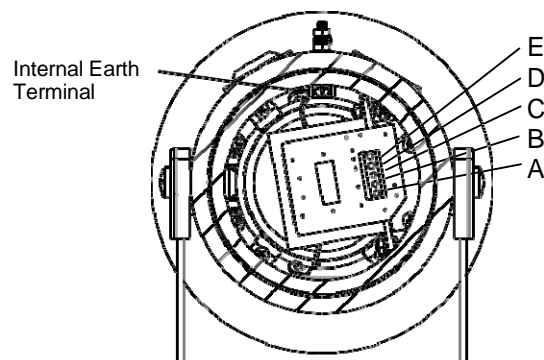
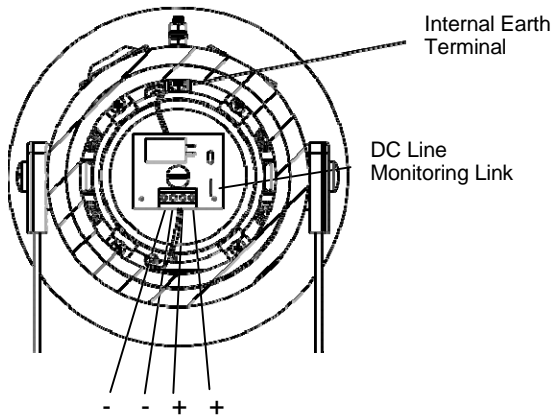

Figure 3. Line In Terminals
Figure 4. Low Impedance Terminals
- c. Fit an M20x1.5 suitably certified cable gland or ½” NPT conduit into the corresponding entry in the enclosure and connect the field wiring to the appropriate loudspeaker terminals as shown in Section 6 / Figure 3 (70V Line In) or Section 7 / Figure 4 (Low Impedance) of this manual. The power supply terminals on the low impedance units are duplicated so that units may be connected in parallel. An end-of-line monitoring resistor may be fitted to either type of unit. Additional entries which are not used must always be fitted with suitably certified blanking elements.
The 8-ohm and 16-ohm low impedance models have dual input terminals on the PCB assembly for input and output wiring. A cable of up to 2.5mm² can be connected to each terminal. If DC line monitoring is used, cut the link on the board. (See Figure 4.)
Internal earth connections should be made to the internal Earth terminal. See Figure 3 and Figure 4. It should be fitted to the internal earth point using a ring crimp terminal to secure the earth conductor.
On low impedance units, the end-of-line resistor used must have a minimum resistance value of 2k ohms and a minimum wattage of 0.5 watts or a minimum resistance value of 500 ohms and a minimum wattage of 2 watts. On the low impedance units, care must be taken with the polarity of the monitoring voltage. If an end-of-line resistor is fitted to a unit, the links on the printed circuit boards of all loudspeakers in the line must be cut for the dc blocking capacitors to be in circuit in order to dc monitor the line. (See Figure 4.)